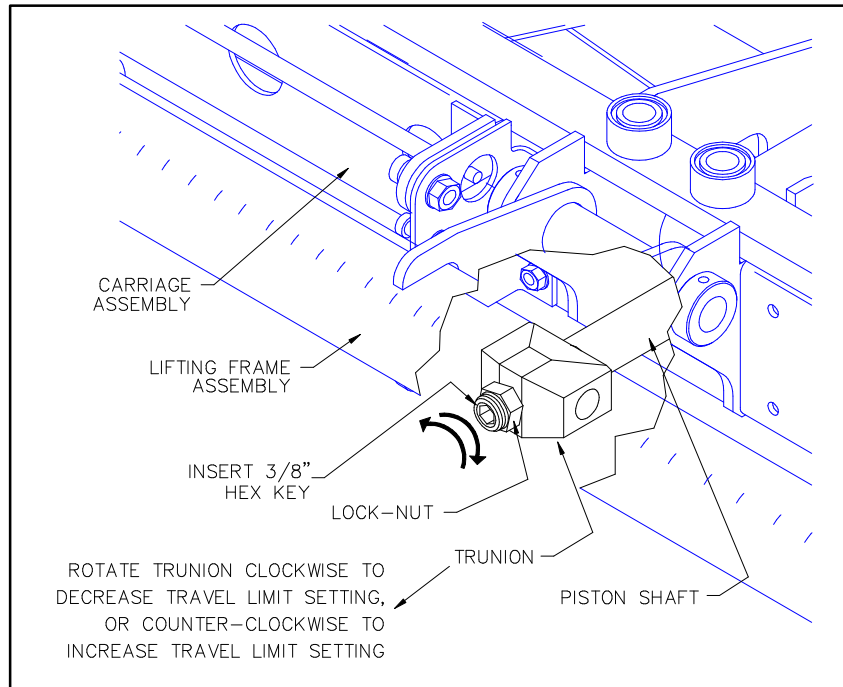

FIGURE 2-3: TRAVEL LIMIT ADJUSTMENT
- e. Refer to **Figure 2-3**. Loosen lock-nut from against trunnion.